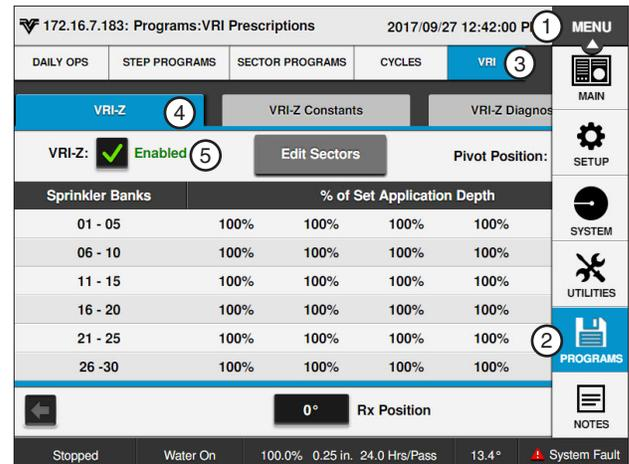

Figure 161-1 1. Menu 2. Programs 3. VRI 4. VRI-Z 5. VRI-Z Checkbox
1. Push **Menu**, **Programs**, **VRI** and **VRI-Z** to display the VRI-Z screen. Refer to Figure 161-1.